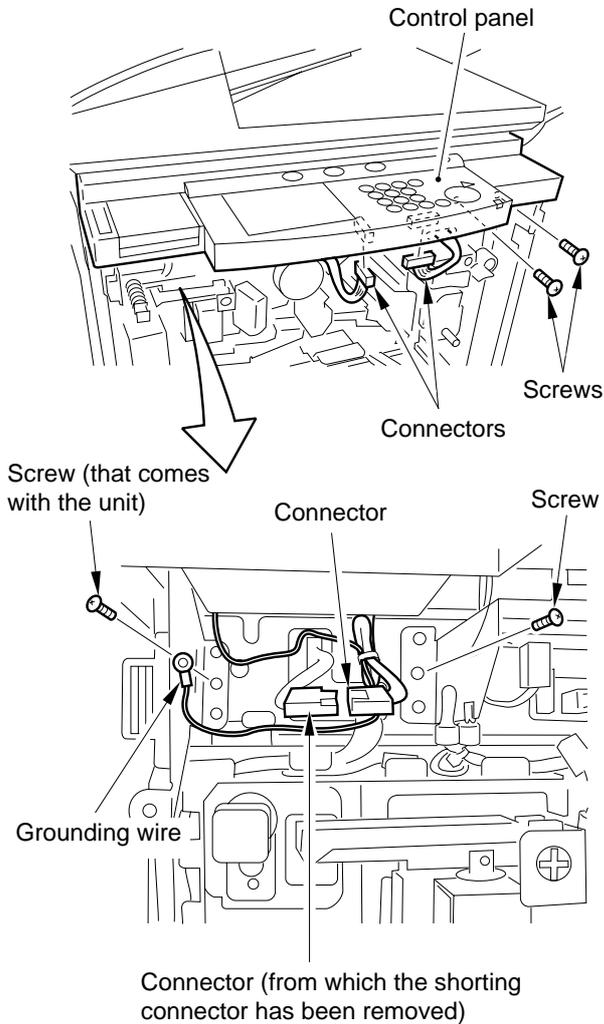

Figure 12-407
- 2) Mount the control panel to the copier. Of the mounting screws used, tighten the farthest left screw on the grounding wire as shown in Figure 12-407.